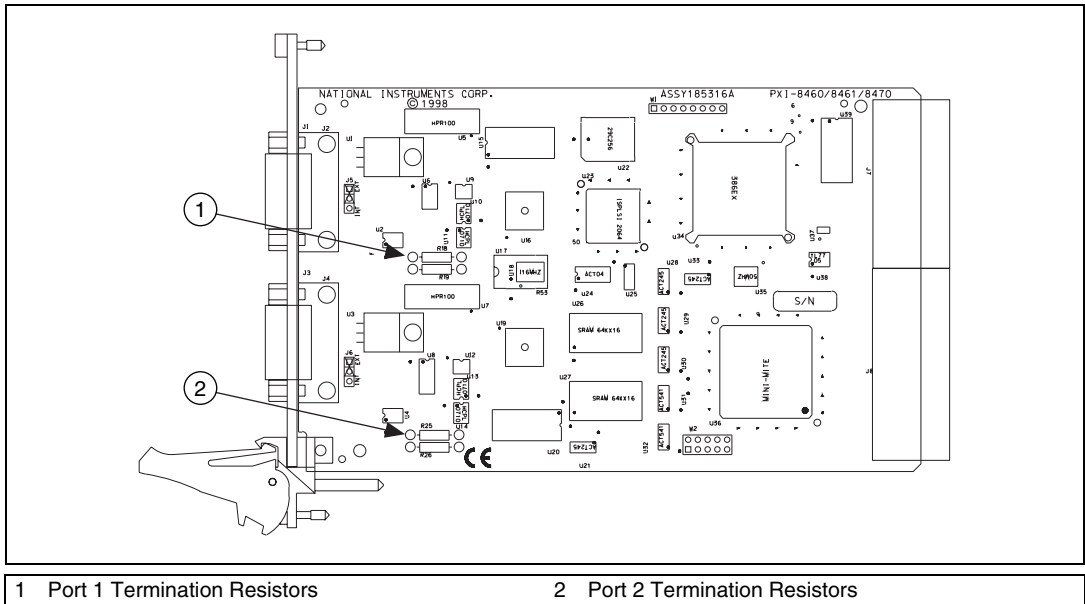

Figure B-5. Location of Termination Resistors on a PXI-8460
1. Remove the termination resistors on your PXI-8460. Figure B-5 shows the location of the termination resistor sockets on a PXI-8460.